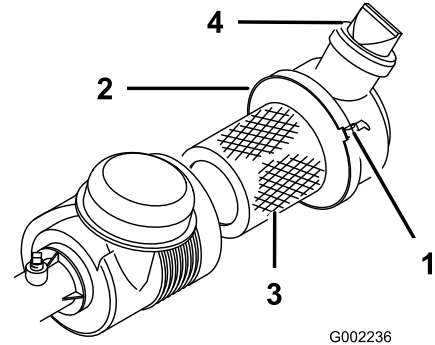

Figure 39
Check the air cleaner body for damage that could cause an air leak. Ensure that the dust cap is tightly sealed onto the air cleaner. Replace a damaged air cleaner body. Squeeze the valve (Figure 39) before each use to clear it of dust and debris.
3. Loosen the air cleaner strap that secures the air cleaner cover to the air cleaner body (Figure 39) and separate the cover from the body.
- Secure the straps (Figure 39).
- Install the cover with the valve pointing down and secure the straps (Figure 39).